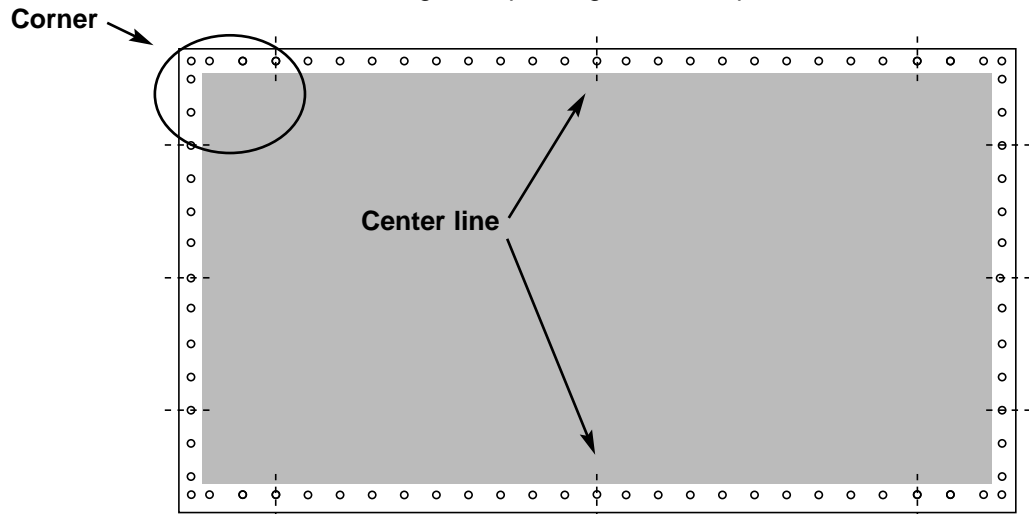

Figure 14. Screen, audience viewing side
6. Start at the top left corner, using the techniques described below. Refer to Figure 14.